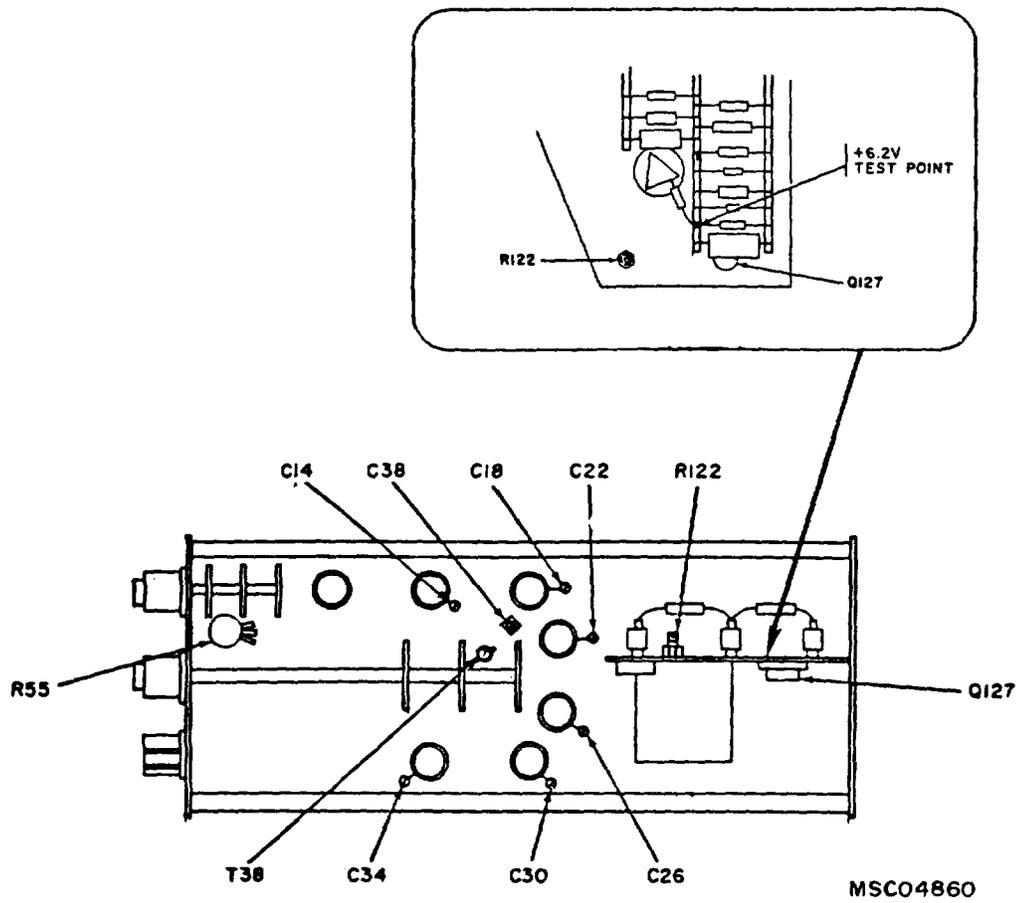
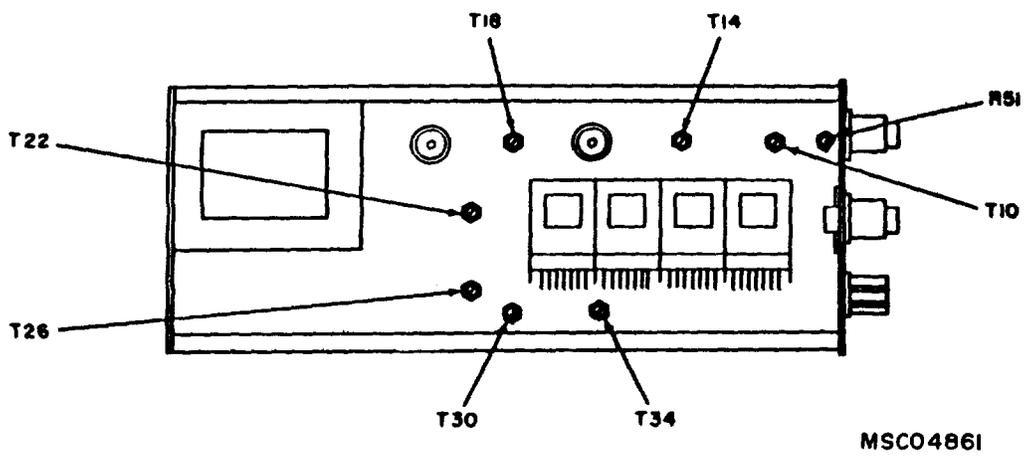

Figure 1. Test instrument - Right side view.
Figure 2. Test instrument - left side view
- (1) Connect negative side of digital voltmeter (A3) to collector of Q127 (fig. 1) and positive to center arm of potentiometer R55 (fig. 1) using leads (B5).
- (2) Set AMPLITUDE switch to 50 and AMPLITUDE RANGE switch to .5-5V.
- (3) Adjust potentiometer R55 for 1 V dc +.005-V indication on digital voltmeter (R).
- (4) Set AMPITUDE switch to 5.
- (5) Repeat a(l) above.
- (6) Adjust potentiometer R51 (fig. 2) for 0.177-V rms indication on digital voltmeter (R).
b. Adjustments. Adjust C14 (fig. 1) for frequency counter indication of 750 kHz (R).
a. Performance Check. Connect digital voltmeter (A3) between collector of Q127 (fig. 1) and chassis ground using leads (BS). If digital voltmeter does not indicate between -10.45 and -11.35 V dc, perform **b** below.
b. Adjustments. Adjust R122 (fig. 1) for -11 V dc indication on digital voltmeter (R).